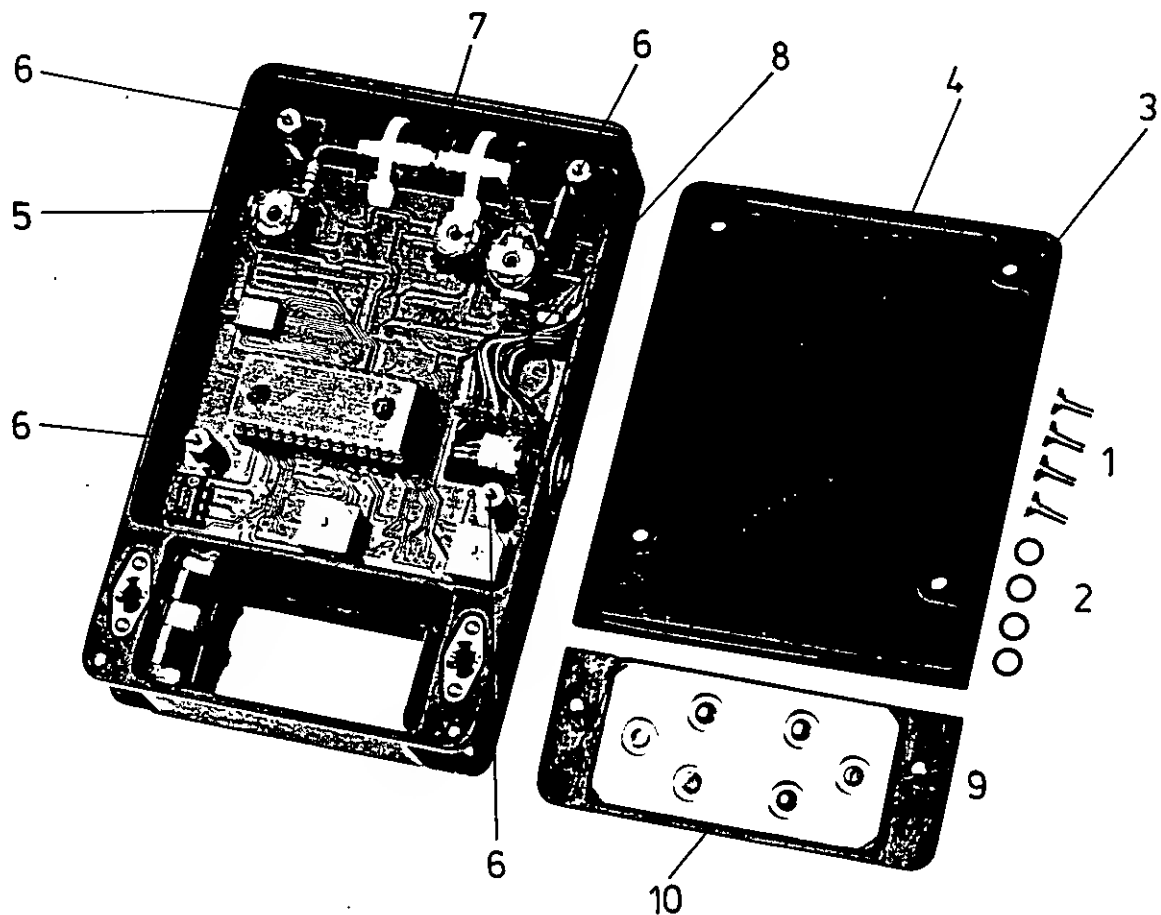

Fig 1 Dose rate meter 6150 AD1/3, open, with covers of housing and battery compartment
1.2.1 6150 AD1/3, removing the main plate and replacing the counting tube (figs. 1 and 2)